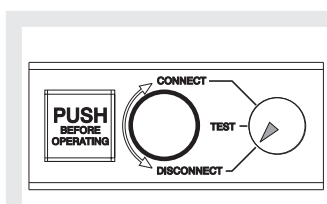

Figure 50
- circuit breaker in DISCONNECT position (see Figure 50)